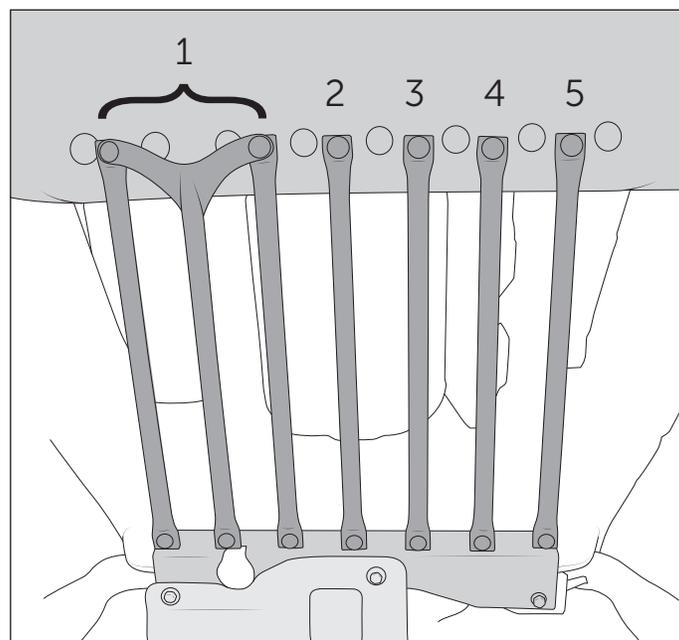

Figure 4
4. Starting on the driver side install the first 3 tubes loosely using 5 M10 carriage bolts with nuts (fig. 4).